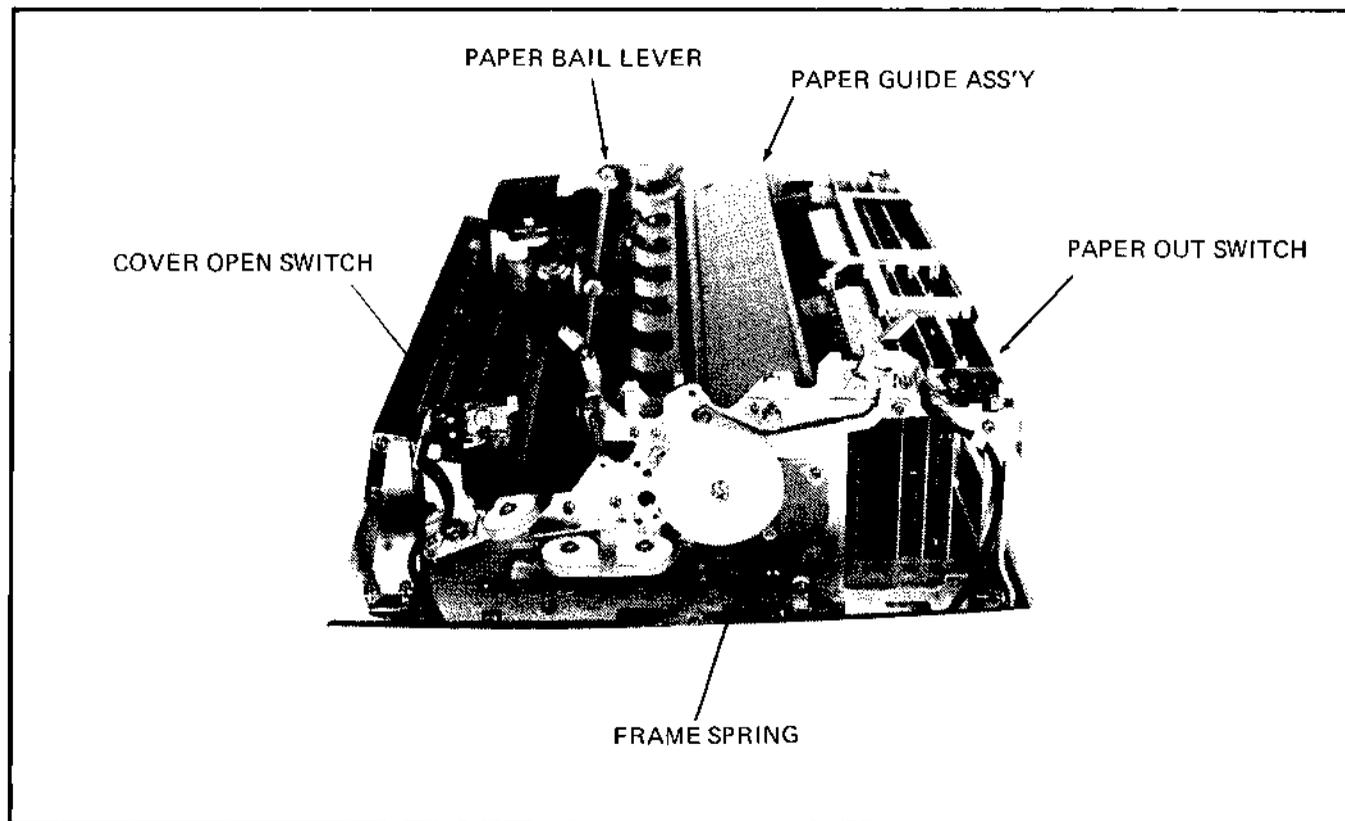

Figure 4-3 SPINWRITER With Cover Removed (Side View)
- e. Ensure that the paper out switch (Section 5.16) and cover open switch (Section 5.17) are adjusted properly (Figure 4-3).
- d. Lift and remove the paper guide assembly (Figure 4-3).